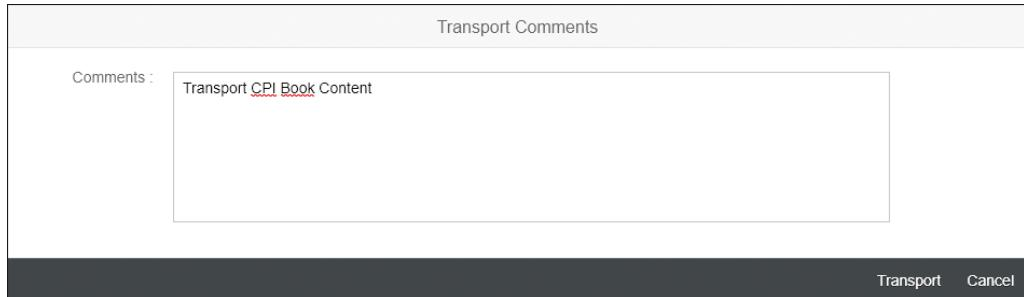

Figure 6.84 Transport Comments Dialog in Web UI
4. Enter a transport comment, and choose **Transport** (Figure 6.84).